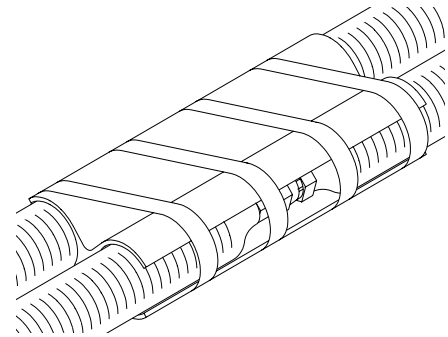

Figure 12. Hose Connection Step (d)
- d) Install the isolator between the chemical hose fittings. Use a small amount of tape to hold it in place (see Figure 12).